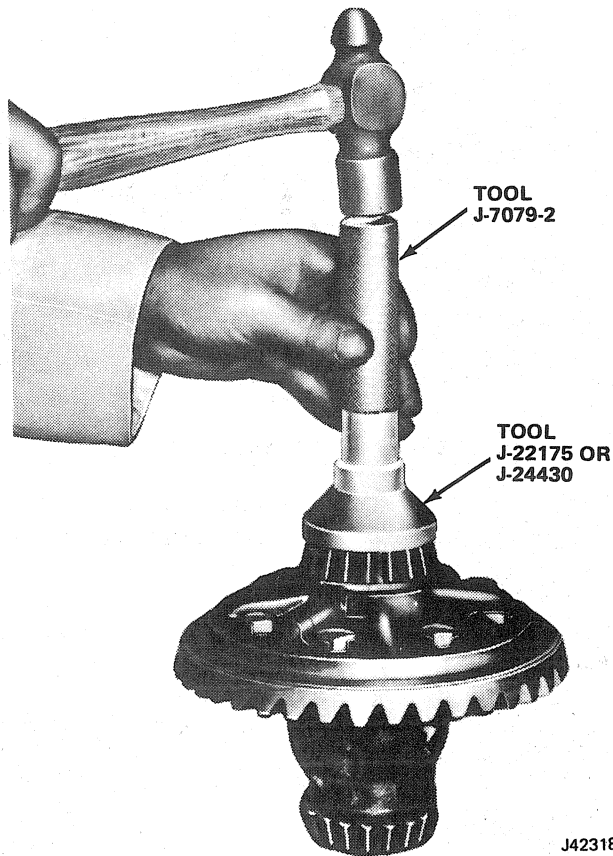

Fig. 2F-57 Differential Bearing Installation
(10) Add additional 0.015 inch (0.38 mm) thickness shim to shim pack to be installed on tooth side of ring gear.
(11) Remove differential bearings. Refer to removal procedures outlined in Differential Assembly.
(12) Install shim packs on appropriate sides of differential case and reinstall differential bearings. On Model 30 and 44 axles, install bearings using Tools J-7079-02 and J-22175. On Model 60 axles, install bearings using Tool J-24430 (fig. 2F-57).